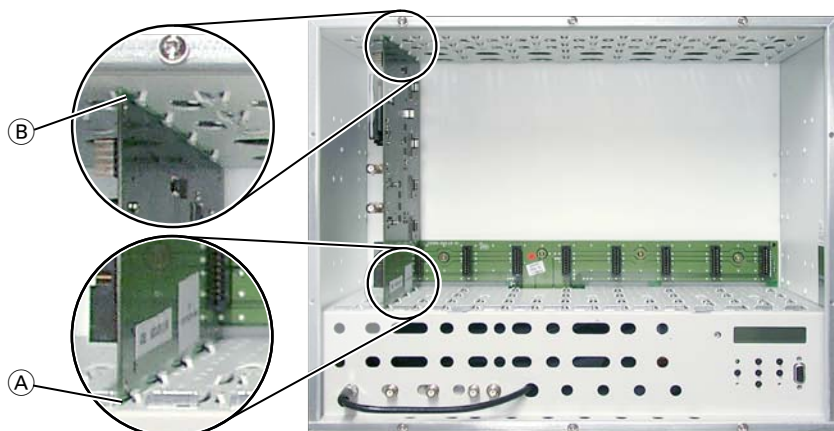

Fig. 4
- Insert the digital module in grooves (A) and (B) of an open slot left to the associated modulator module and gently slide it into the head-end station until it makes contact with the board on the rear wall (fig. 4).